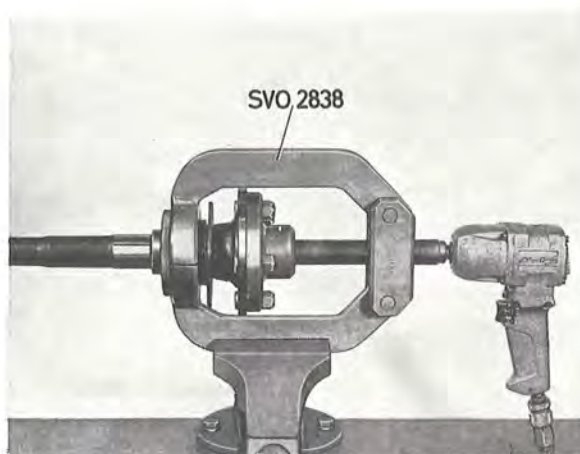

Fig. 4-132. Removing the drive shaft bearing
4. Secure press tool SVO 2838 in a vice. Secure the drive shaft to the spindle plate. Screw in the spindle so that the tool arms can be placed against the bearing, see Fig. 4-132. Screw out the spindle and press off the bearing and lock ring. Remove the oil seal.